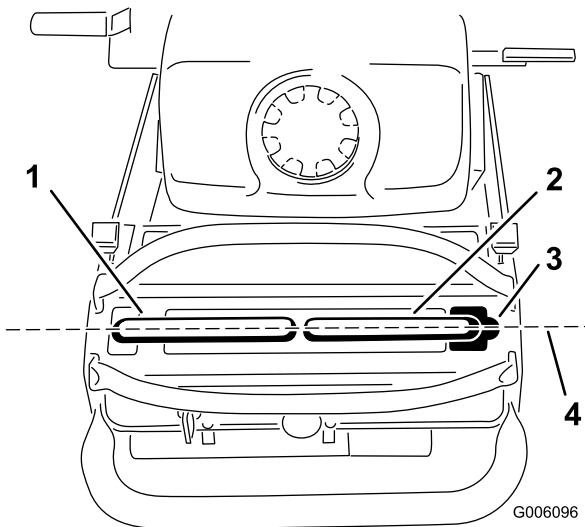

Figure 52
Important: Ensure the tracking of the mower is correct after adjusting the motion control levers. After adjusting the tracking, the motion control levers may not align the exactly front to back (Figure 52).
1. After the horizontal alignment is finished, check the front to back alignment (Figure 52).